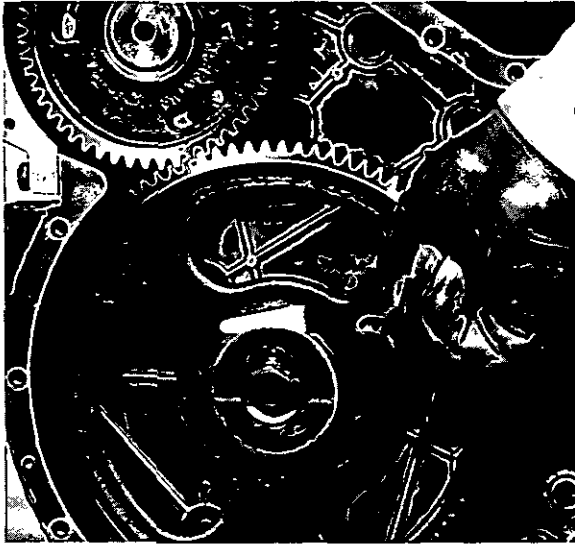

Fig. G.5
4. Replace idler gear retaining plate, locking washer and retaining setscrew. Fully tighten setscrew and bend up locking washer. Ensure that idler gear has end float on hub (Fig. G.5). End float should be between 0.005 in to 0.015 in (0,13 to 0,38 mm).